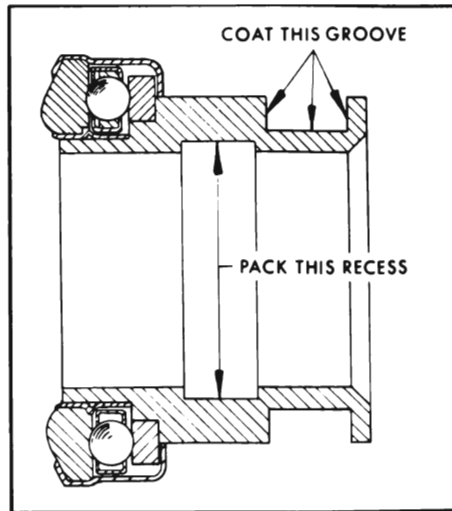

Figure 4-5—Throw-Out Bearing Lubrication
3. Fill groove in throw-out bearing with wheel bearing lubricant. See Figure 4-5. Make sure transmission front bearing retainer is clean and apply a light coat of wheel bearing lubricant. Slide throw-out bearing over transmission retainer several times. Remove throw-out bearing and wipe off all excess lubricant pushed up by hub of bearing.
6. Lubricate the recess on the inside of the throw-out bearing collar. See Figure 4-5.